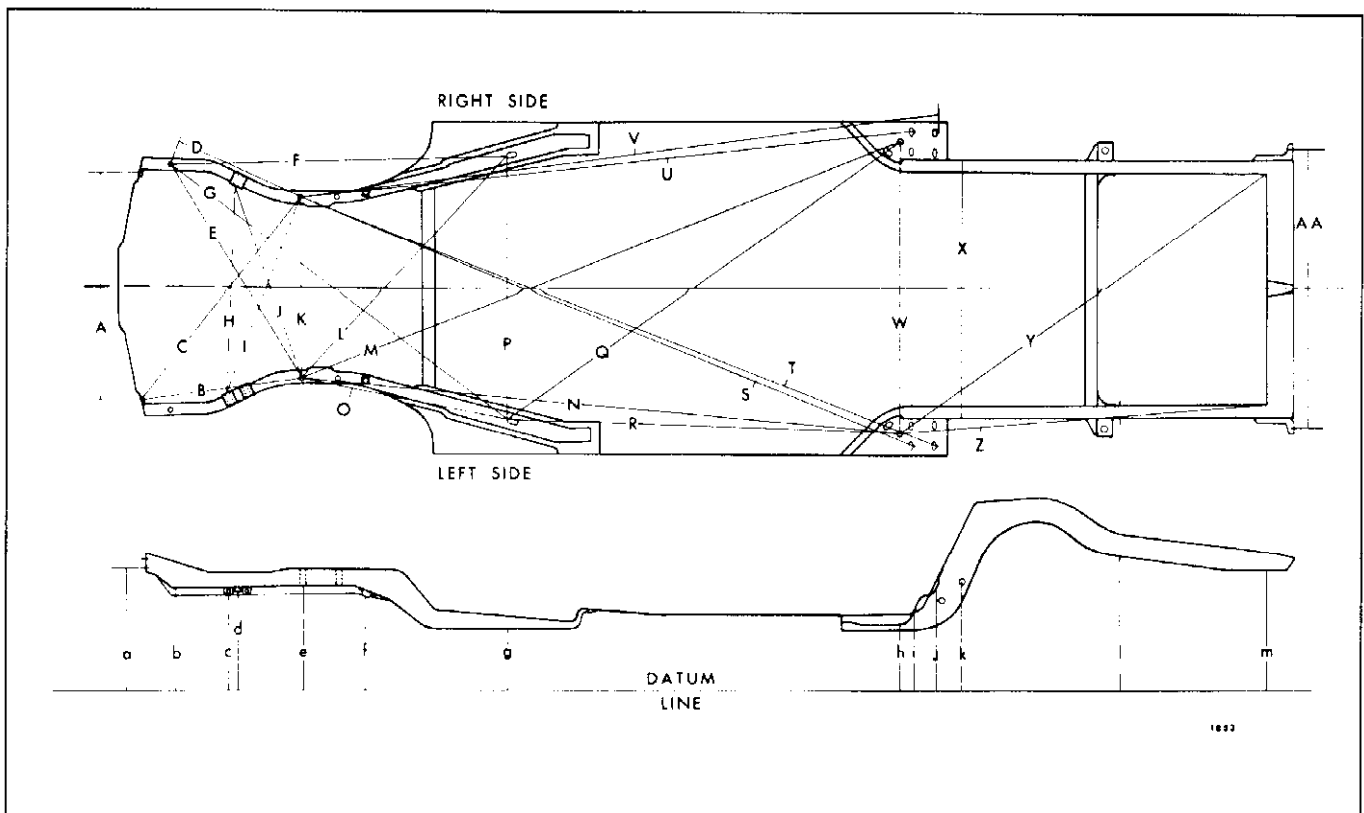

Fig. 3-2—Underbody Vertical Alignment Ref. Points
Dimensions shown in the upper portion of Figure 3-2 are calculated on a horizontal plane parallel to the plane of the underbody. Precision measurements can be made only if the tram gage is also parallel to the plane of the underbody. This can be controlled by setting the vertical pointers on the tram gage according to the dimensions shown in the lower portion of Figure 3-2.
**Point Dimensions—(Fig. 3-2)**
(Fig. 3-2)**